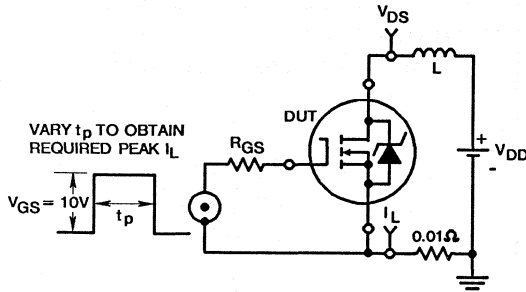

Figure 14. Unclamped Energy Test Circuit
4. $V_{DD} = 50V$, Start $T_J = +25^\circ\text{C}$, $L = 4.5\text{mH}$, $R_{GS} = 25\Omega$, $I_{PEAK} = 8.1A$ (See Figures 14 & 15)
(See Figure 14, $L = 100\mu\text{H}$)